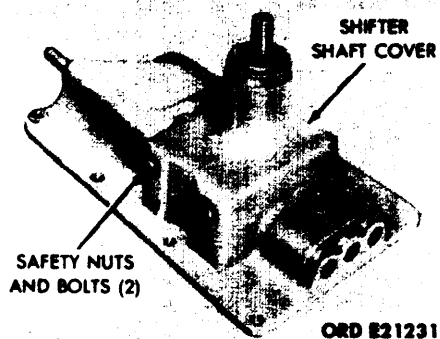
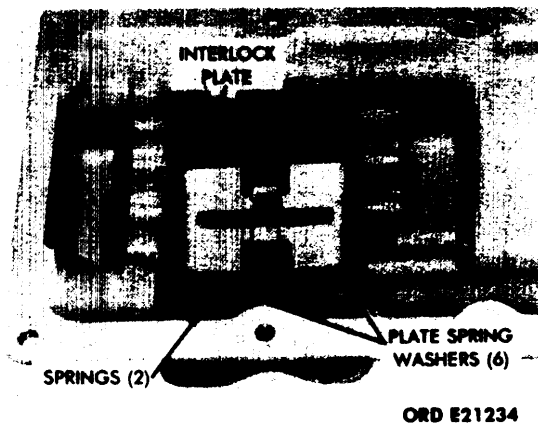

Figure 3-41. Shifter Shaft Cover.
Figure 3-44. Removal of Interlock Plate and Springs.
(1) Remove the interlock safety nuts and bolts. (See fig. 3-41.)
(4) Pry the interlock plate up and remove the interlock plate, springs, and interlock plate spring washers. (See fig. 3-44.)
(3) Place the interlock plate into position and install the springs and plate spring washers. Plate spring washers are installed between the springs and the shifter shaft cover. (See fig. 3-44.) Install the safety nuts and bolts. (See fig. 3-41.)
(6) Tighten interlock safety nuts and bolts to 40-50 lb-ft torque (See fig. 3-41.)